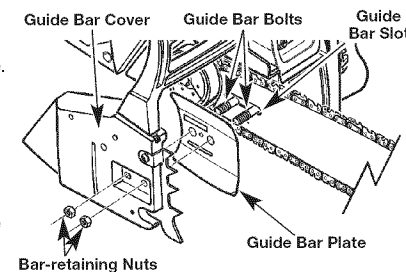

Fig. 31
2. Slightly loosen the bar-retaining nuts (Fig. 31).
2. Remove the bar-retaining nuts with the supplied multi-purpose tool. Remove the guide bar cover and guide bar plate by pulling them straight out (Fig. 31).
5. Fit the guide bar flush against the mounting surface so that the two guide bar bolts are in the guide bar slot (Fig. 31).